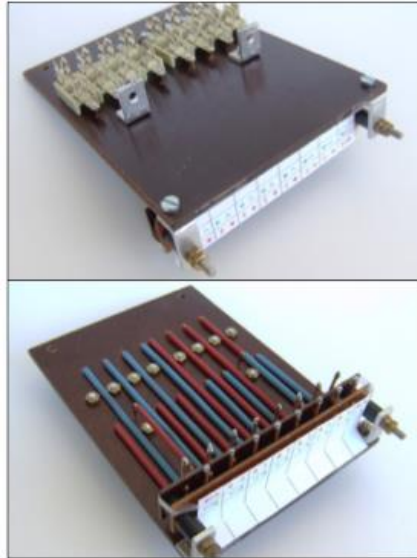

Figure 6 Module „fuses“
- < The fuses (F1 to F8), see figure 6